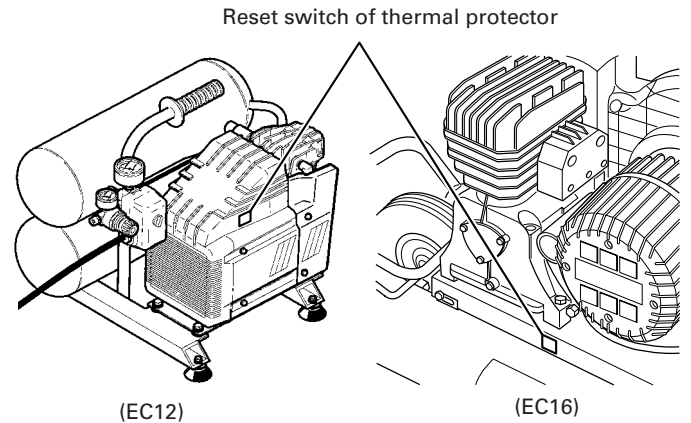

Fig. 6
This item is not necessary if your compressor is not equipped with the thermal protector reset switch shown in Fig. 6.
- (2) If the extension cord does not conform to the specifications given on page 6, replace with an extension cord such as that shown on page 6. If the capacity of the power supply is insufficient, increase the power supply capacity to remove the cause of a flow of excessive current (over-current).
- (3) Wait approximately 5 minutes, then press the reset switch of the thermal protector (Fig. 6).
- (4) Start up. If the motor still stops during operation, please contact the service center.